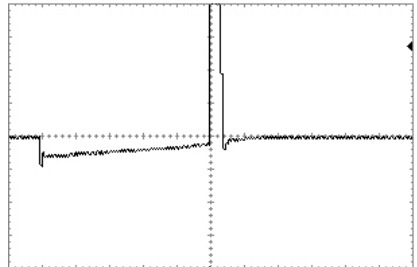

Fig.9
- ◆ **Dmp Sc1** (weak damping) (see Fig.9);